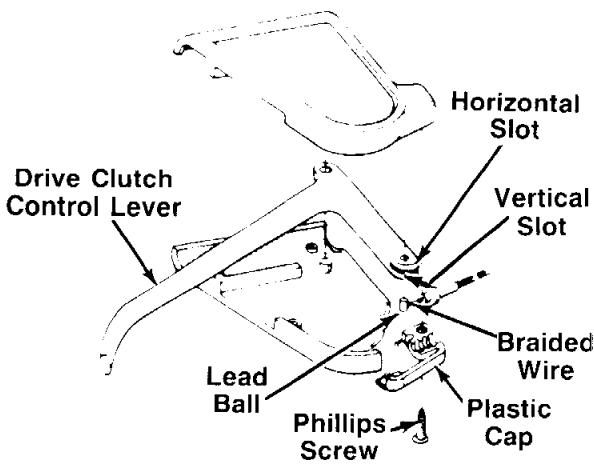

FIGURE 10.
2. Slide the braided wire around in the horizontal slot. See figure 10.
4. Secure the plastic cap to the clutch control housing using the two Phillips head screws. See figure 10.